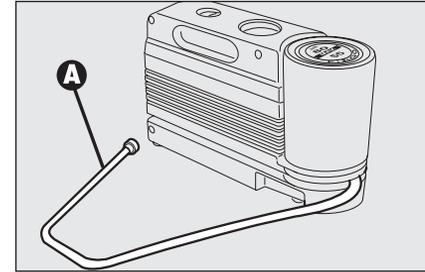
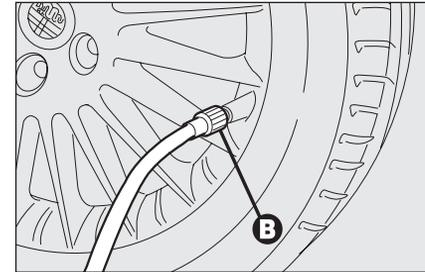

fig. 17
fig. 18
- loosen tyre inflation valve cap, take out the filler hose **A**-fig. 17 and screw the ring nut **B**-fig. 18 on the tyre valve;